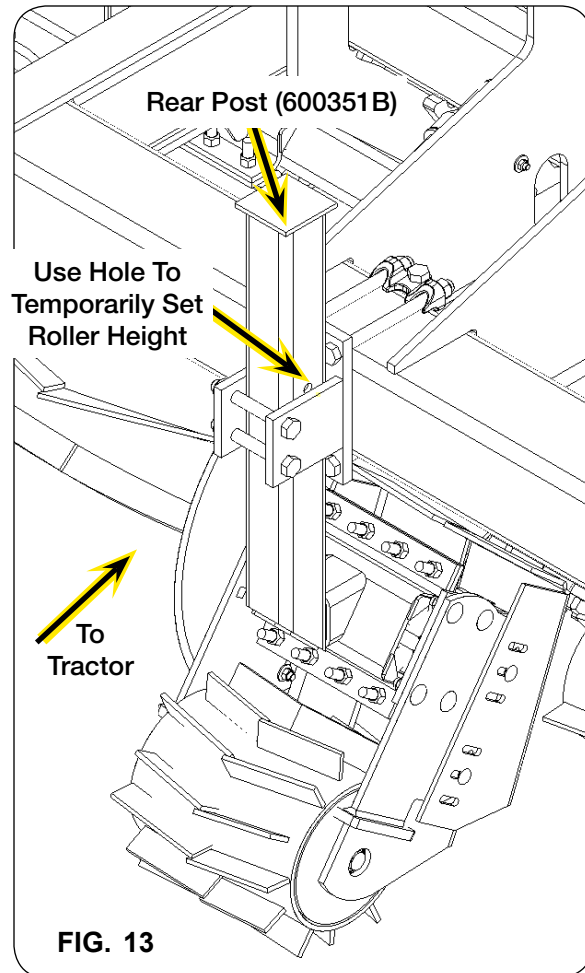
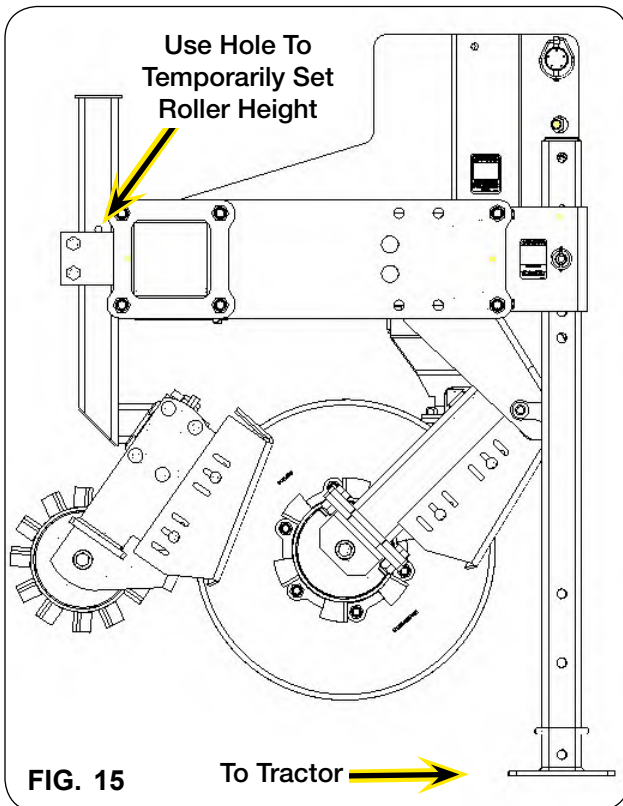

FIG. 13
FIG. 15
- Using a safe lifting device rated for at least 150 lbs., support the rear roller assembly. Loosely attach the bottom rear post clamp to the rear post using 1/2"-13UNC x 2" full thread capscrews (97369) and 1/2"-13UNC locknuts (9800). (FIG. 13, FIG. 14, and FIG. 15)
NOTE: Insert a bolt or pin through hole in the rear post to temporarily set roller height position for 14" shank depth. (FIG. 13, FIG. 14, and FIG. 15)
- Install 1 1/2" Dia. x 8 1/2" neoprene springs (600355) in all 4 corners between the clamp and roller frame tube using adhesive tape (9502831) to assist assembly. (FIG. 13 and FIG. 14)
- Evenly and completely tighten all 4 full thread 2" long capscrews (FIG. 13 and FIG. 14). Torque hardware, refer to "Torque Chart".